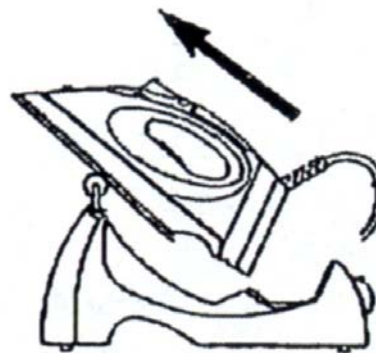

Fig. 7
- Take the iron with the power unit (11) from the stand. (Fig. 7)
- Either place iron on heel rest or on the stand (12) when you interrupt ironing.